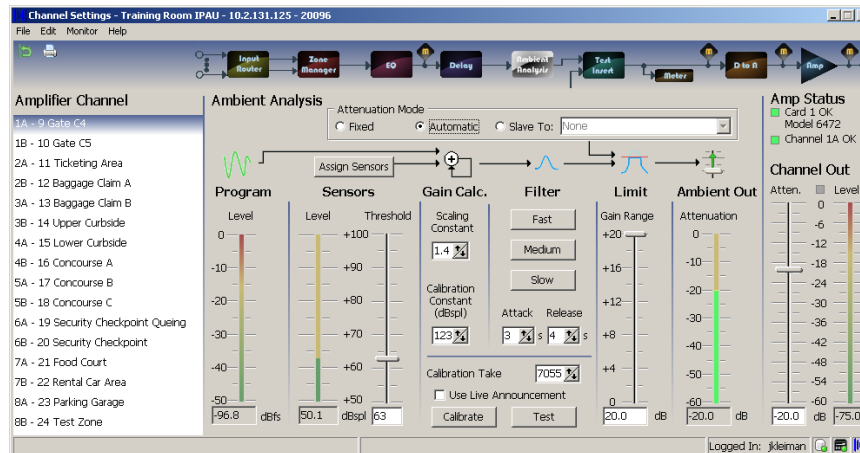

Figure 2-11: Ambient Analysis
Titan series amplifier frames are equipped with ambient noise compensation (Ambient Analysis), capabilities when paired with a noise sensor collector, such as a T9032NS. Ambient Analysis adjusts the output attenuation of a channel in response to ambient noise level measured in the area served by the channel. Anywhere from one (1) to four (4) ambient noise sensors can be assigned to each channel. Channels can also be slaved to other channels. This functionality is configured from the Ambient Analysis view on the Channel Settings window as shown in Figure 2-11.
The **Scaling Constant** determines the amount of ambient noise level that will result in the output level to increase by 1dB. A scaling constant of 1 will result in the output level increasing by 1dB for each 1dB increase in ambient sensor level. Figure 2-11 shows a scaling constant of 1.4. With this setting, a 1.4dB increase in ambient sensor level will result in a 1dB increase in output level up to the point where the **Limit** has been reached.
The limit sets the maximum amount of gain that can be applied through the ambient analysis compensation process. The amount of gain available is determined by the attenuator setting of the **Channel Out** slider. For example, if the channel out slider is set to -20dB as shown in Figure 2-11, then the maximum available setting for the Limit slider will be +20dB. Setting the Limit to +12dB will cause the output level to be increased by a maximum of 12dB above the setting of the Channel Out slider. Thus, with very loud ambient noise levels the output level will be effectively set to -8dB and reduced to -20dB when the ambient noise level is very low or has dropped below the threshold. The ambient noise compensation will be continually adjusted within this range as long as the noise level remains above the threshold but below the amount required to drive the system to maximum level.